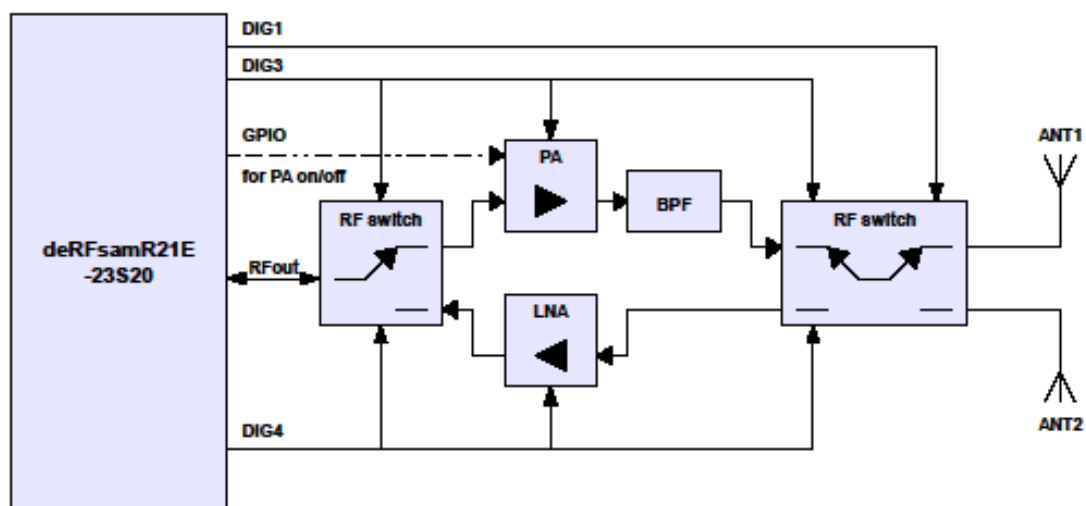

Figure 11-8: block diagram for external PA/LNA and antenna diversity control
The radio module deRFsamR21E-23S20 can be used with an external front end, including power amplifier (PA) for transmission and low noise amplifier (LNA) for receiving, and antenna diversity. **Figure 11-8** shows a possible design as block diagram. A custom design can contain a single PA or single LNA or a complete integrated front-end chip. It depends mainly on the application. Furthermore, it is possible to include a RF switch for driving the antenna diversity feature. An example block diagram is shown in **Figure 11-8**.